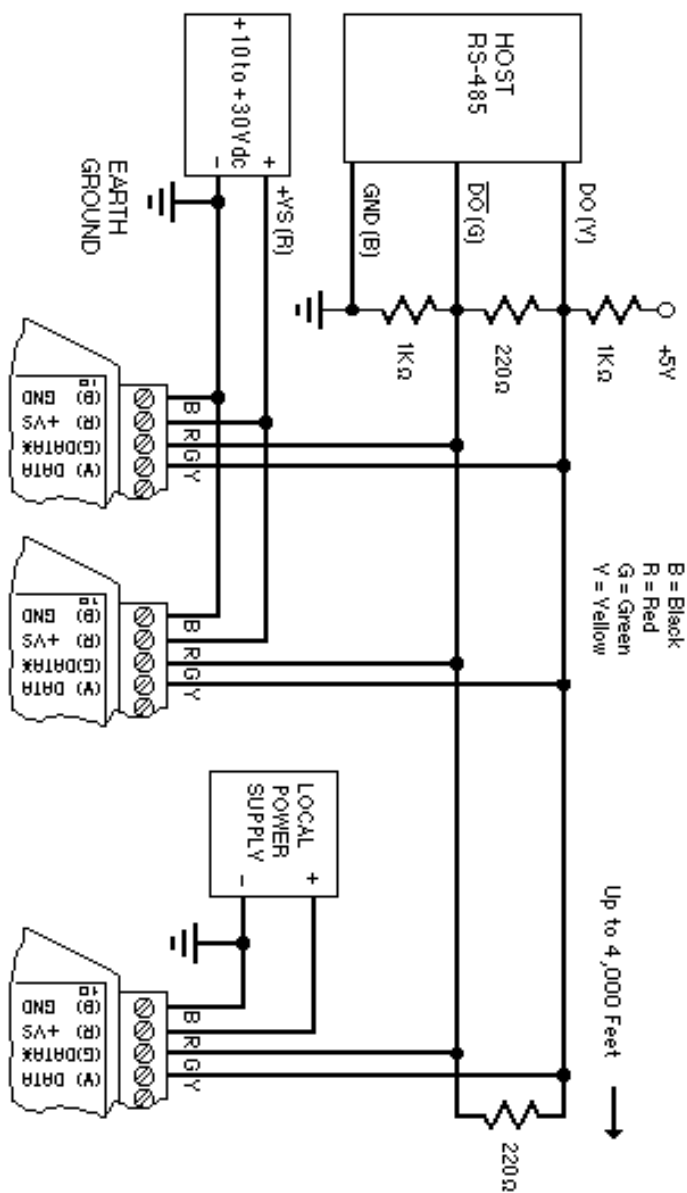

Figure 3.2 RS-485 Network.
Figure 3.2 illustrates the wiring required for multiple-module RS-485 system. Notice that every module has a direct connection to the host system. Any number of modules may be unplugged without affecting the remaining modules. Each module must be setup with a unique address and the addresses can be in any order. All RS-485 modules must be setup for no echo to avoid bus conflicts (see Setup). Also note that the connector pins on each module are labelled with notations (B), (R), (G), and (Y). This designates the colors used on standard 4-wire telephone cable:
of time when all stations on the line are in receive mode. During this time, the communications lines are left floating and are very susceptible to noise. To prevent the generation of random characters, the lines should be biased in a MARK condition as shown in Figure 3.2. The 1K resistors are used to keep the DATA line more positive than the DATA* line when none of the RS-485 transmitters are on. When enabled, the low impedance of an RS-485 driver easily overcomes the load presented by the resistors.